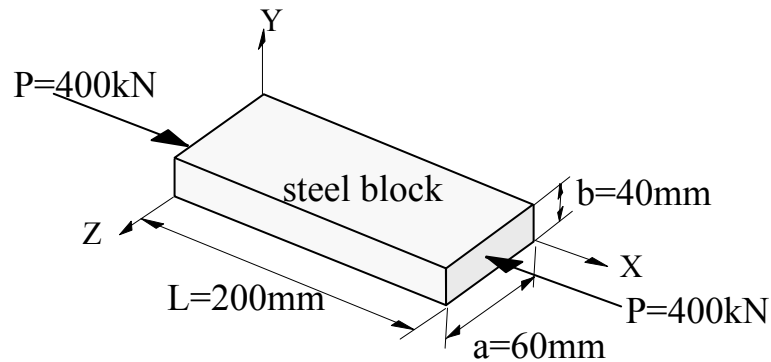

Figure. 2
2. A steel block with the original length $L=200\text{mm}$, height $b=40\text{mm}$ and width $a=60\text{mm}$, subjected to an axial compression load $P=400\text{kN}$ shown in the figure 2. After the P loading, if dimensions b and L are change to 40.02mm and 199.7 mm , respectively, calculate: